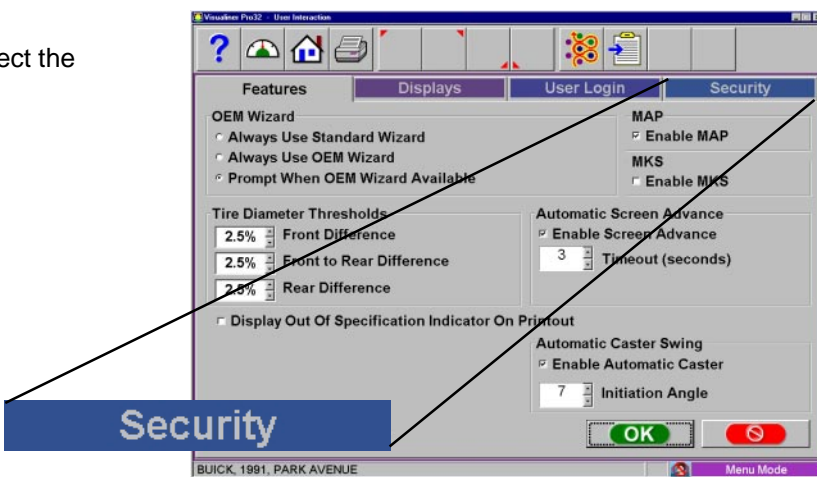

Figure 3-34
3. From the User Interaction menu select the **<SECURITY>** tab. (Figure 3-34)